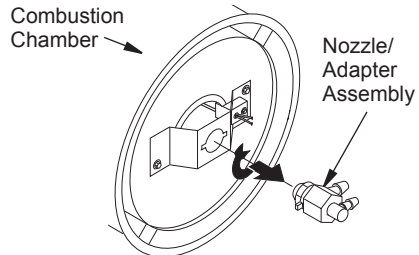
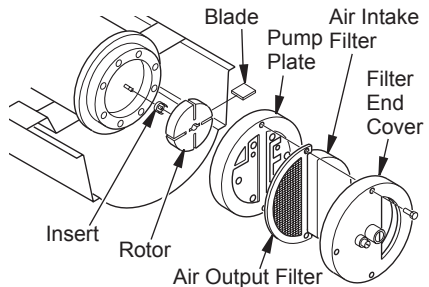

**Figure 24 - Removing Air and Fuel Line Hoses (115/165 Models Only)**
**Figure 27 - Air Hose to Barb Fitting**
14. Replace photocell in photocell bracket. Route wires as shown in either (see Figure 23 or Figure 24, page 13).
3. Remove fuel and air line hoses from nozzle assembly (see Figure 23, page 12 or Figure 24).
4. Inspect fuel and air line hoses for cracks and/or holes. If fuel line hose is damaged, disconnect from nozzle adapter (see Figure 23 or 24) and from fuel filter (see *Fuel Filter*, page 11). If air line hose is damaged, disconnect from nozzle adapter (see Figure 23, page 12 or Figure 24, page 13) and from barb fitting on pump end cover (see Figure 27).
5. Install new air and/or fuel line. Attach one end of air line hose to barb fitting on pump end cover (see Figure 27) and the other end to nozzle adapter (see Figure 23, page 12 or Figure 24, page 13). Attach one end of fuel line hose to fuel filter (see *Fuel Filter*, page 11) and the other end to nozzle adapter (see Figure 23, page 12 or Figure 24, page 13).
**Note:** Route hoses as shown in Figure 23, page 12 or Figure 24, page 13, according to model. Hoses are not to touch photocell bracket.